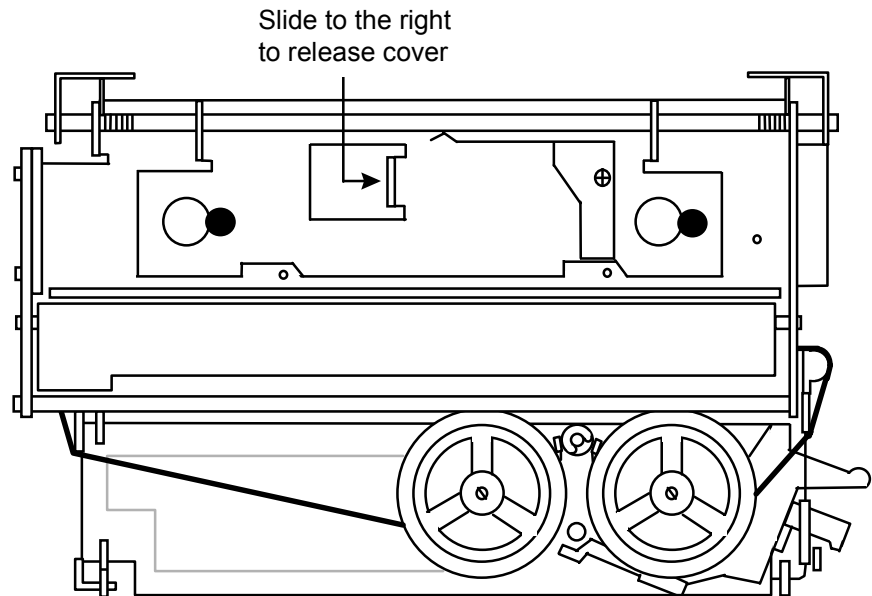

Figure 5-4: Opening the Printer Cover
1. Slide the locking mechanism to the right to release the printer cover (see Figure 5-4).